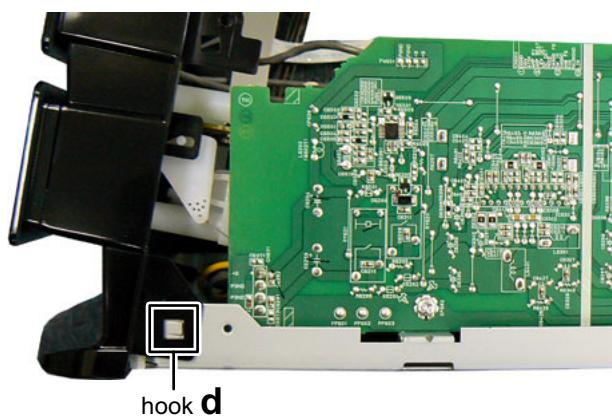

Fig.10
- (3) Disengage two hooks **d** engaged both side of the Front panel. (See Fig.10)